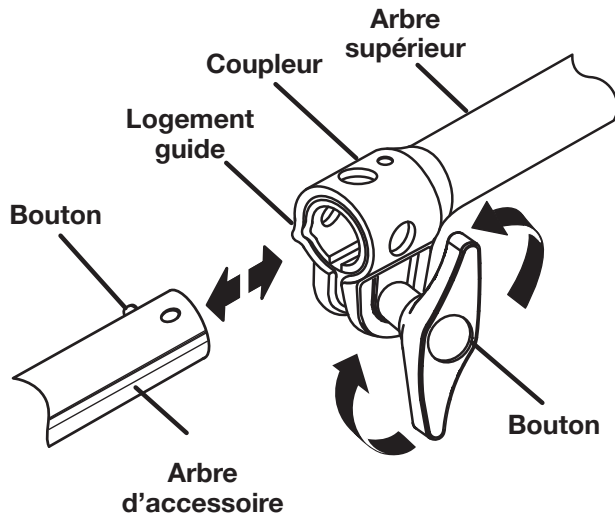

Figure 2
Voir la figure 2.
*Voir la figure 2.*